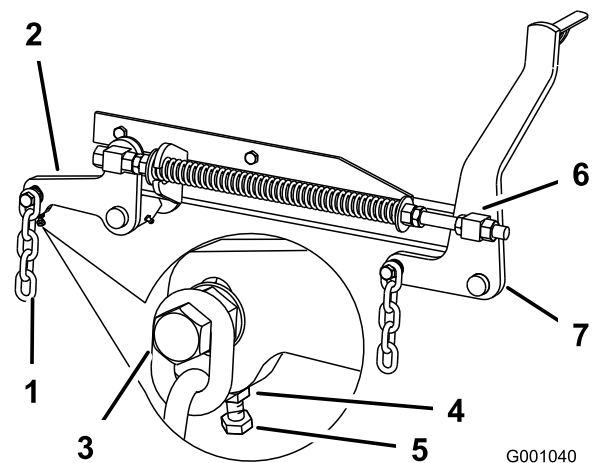

Figure 76
7. If the measurements at positions **B** or **C** are not correct, loosen the bolt attaching the rear chain to the rear support arm (Figure 76).
- Loosen the jam nut under the rear support arm and adjust the adjustment bolt to get a measurement of 3-1/8 to 3-1/4 inches (80 to 83 mm) (Figure 76).
- Loosen the front swivel jam nuts, at the front of the right and left swivels, approximately a 1/2 inch (13 mm) (Figure 76).
(6 to 10 mm) lower in front at **A** than in the rear at **B** (Figure 76).